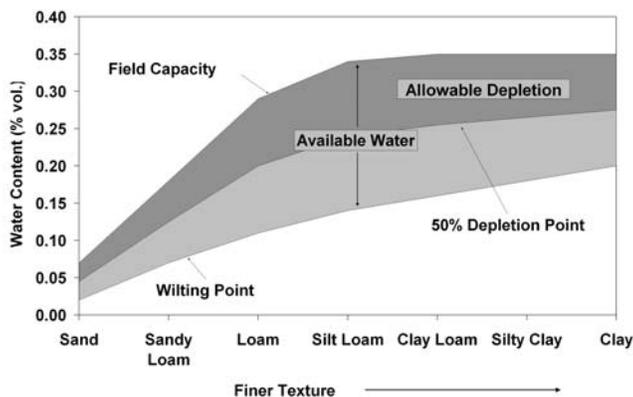

Figure 2. The amount of allowable depletion, or the readily available water, represents about 50 percent of the total available water.
- Allowable Depletion (readily available) is the point where plants begin to experience drought stress. For peaches, the amount of allowable depletion, or the *readily* available water represents about 50% of the total available water in the soil. (Figure 2.)